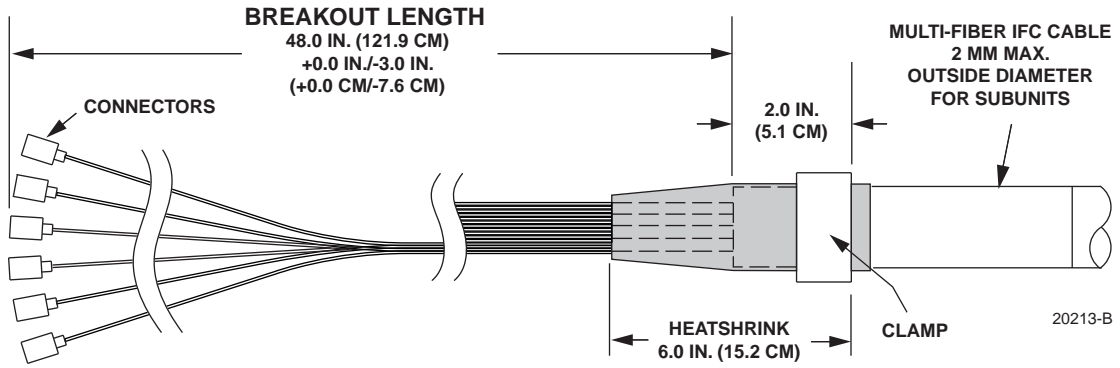

Figure 27. Breakout Dimension for Stranded IFC Cable Routed to 13-Slot MicroVAM Chassis
1. Break out the IFC cable according to the dimension shown in Figure 27.